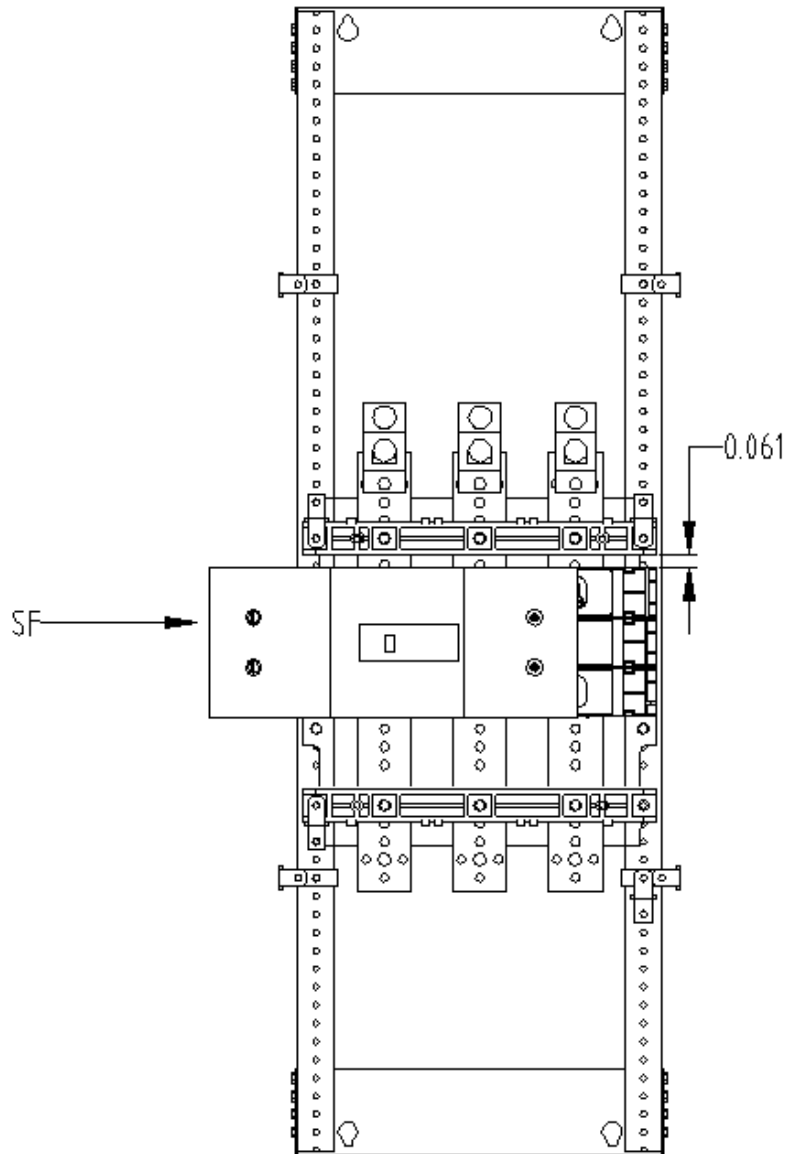

Figure 6 Distance between Crossbar and SF breaker
15. If SF breaker has to be installed immediately after crossbar as shown in Figure 6 then gap between the breaker and crossbar has to be 0.061inch.